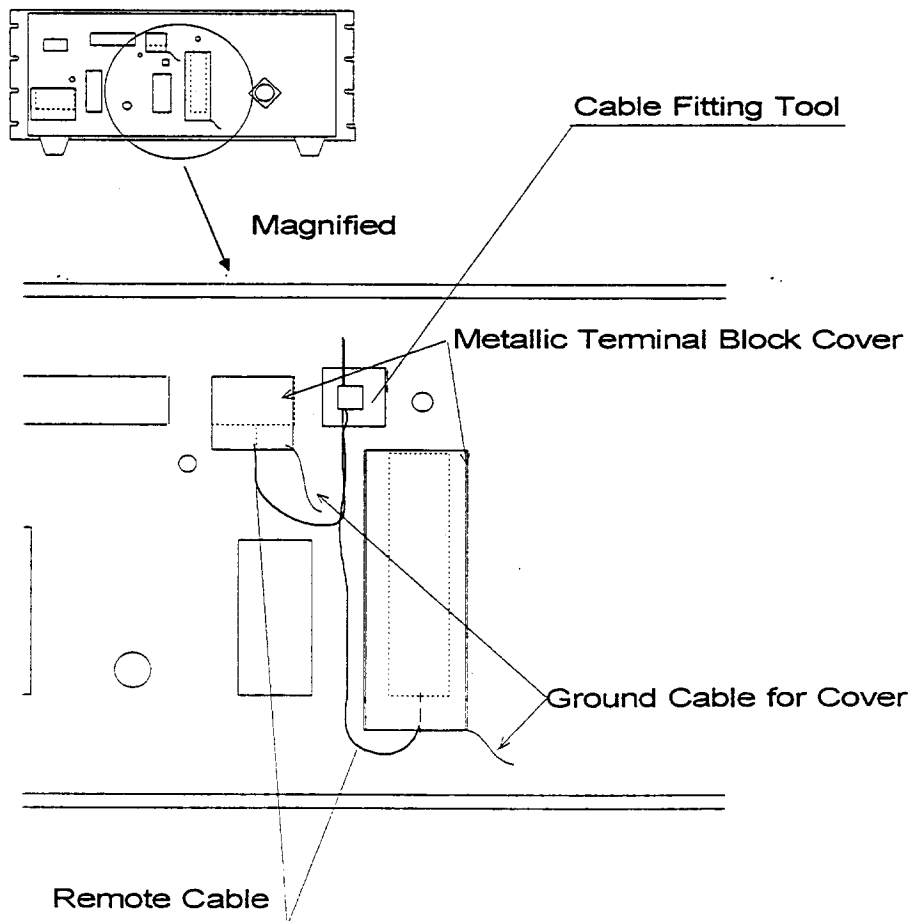

Figure 8.3 Example of Securing the Remote Cable
- ◇ When connecting optional power (over 25 V AC or over 60 V DC) to terminals ① to ⑥, ⑱ and ⑳, secure the remote cable using the attached cable fitting tool (see Figure 8.3).
- ◇ When connecting optional power (over 25 V AC) to terminals ① or ②, secure the remote cable using the attached cable fitting tool (See Figure 8.3).